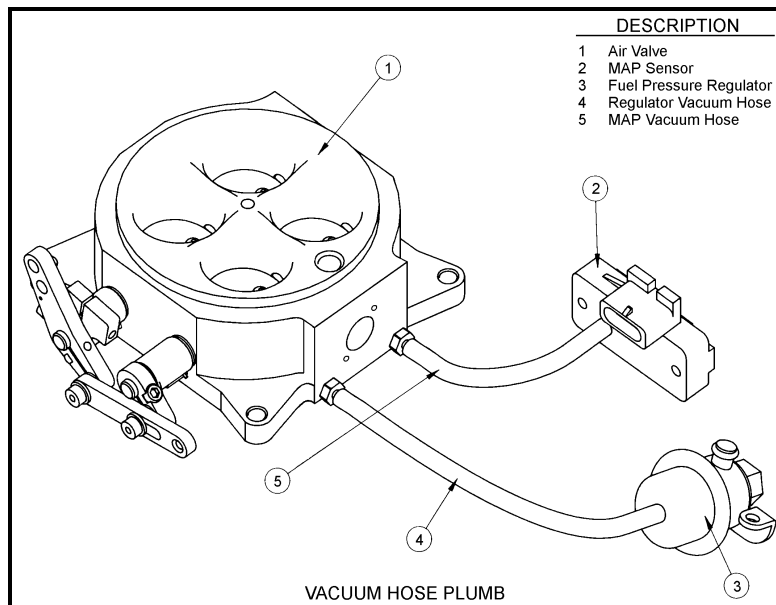

Figure 2
1. Install vacuum hoses to the appropriate port on the throttle body (**See Fig 2**). Use the diagrams made during removal of the existing fuel system to locate the correct port. The vacuum ports of the throttle body are labeled in the figure to the right.